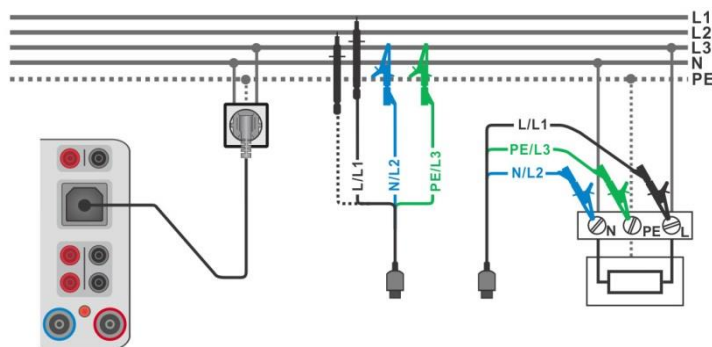

Figure 6.76: Phase-neutral or phase-phase line impedance measurement – connection of Plug test cable or 3-wire test lead
- › Connect 3-wire test lead or Plug test cable to the object under test, see **Figure 6.76**.